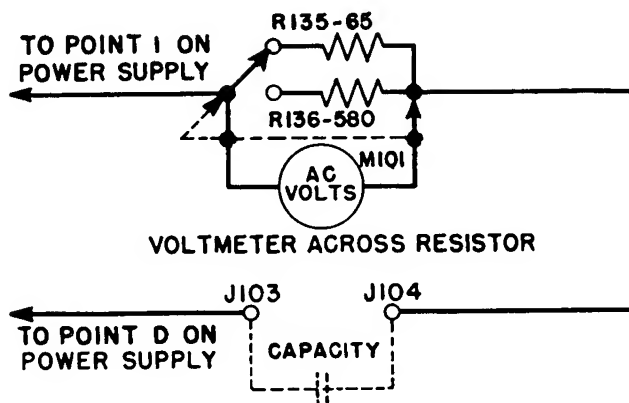

Figure 2-12. Simplified Capacity Test Circuit
c. CAPACITY. (See Figure 2-12)